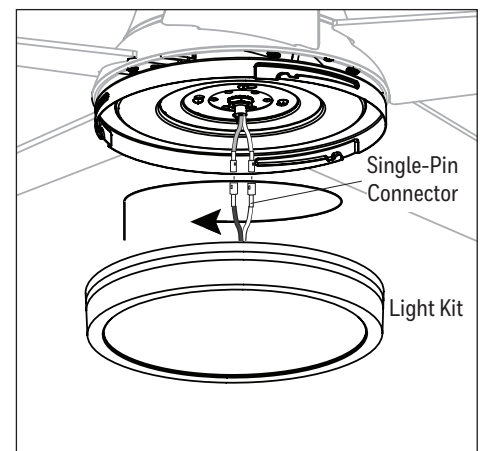

Figure 4.5
5. Connect the single-pin connectors from the fitter plate to the single-pin connectors from the light kit -- blue to black and white to white. Attach the light kit to the light pan by twisting the light kit firmly in a clockwise direction until it is secure. **CAUTION:** Avoid cross-threading the light kit during installation. Improper installation could cause the light kit to be difficult to remove or fall, which could cause serious injury (Figure 4.5).